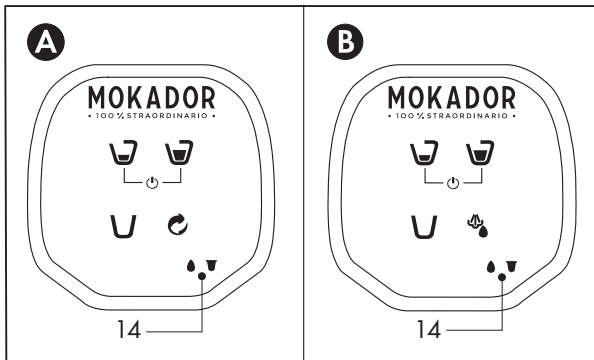

Fig. 4
The light (14) on the control panel indicates that there is no water in the tank (Fig.4); fill the tank (8) as instructed above.